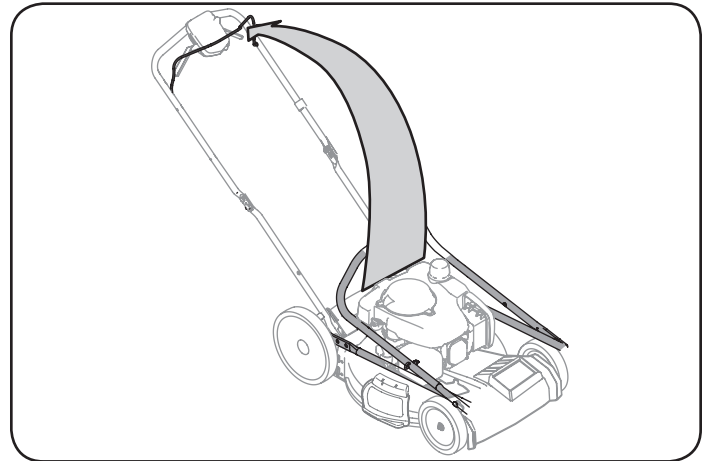

Figure 2
2. Gently lift and pivot the upper handle into the operating position as shown in Figure 2. Make certain the lower handle is seated securely into the handle brackets.